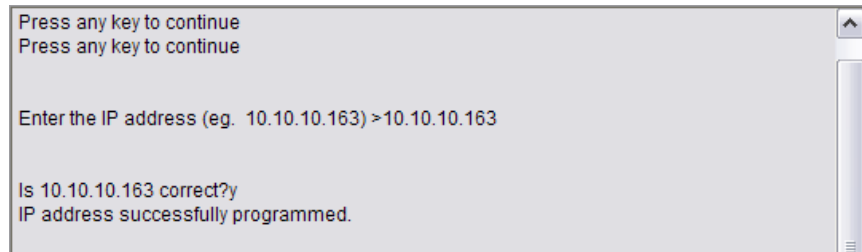

Figure 22. Successful Programming of IP Address
4. The MCU will prompt you to specify and verify an IP address. Figure 22 shows an example of successful programming of the IP address. **Press any key** after entering the IP address and use "y" or "n" for the confirmation.